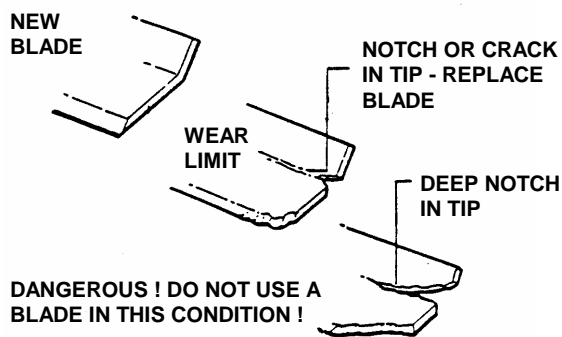

FIGURE 4.1
1. Inspect blade frequently for signs of excessive wear or damage. See Figure 4.1.
2. Replace the blade if it is badly chipped, bent, noticeably out of balance or has cracks or notch in either tip. See Figure 4.1. Replace with new blade.
- Reinstall blade. See Figure 4.1. Check torque of blade retaining cap screw. Recommended torque should be 30 to 40 ft. lbs.